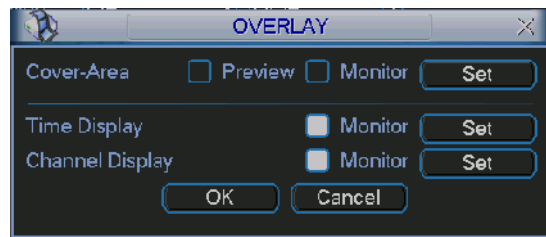

Figure 5-7
- ⌘ Overlay: Click overlay button, you can see an interface is shown in Figure 5-7